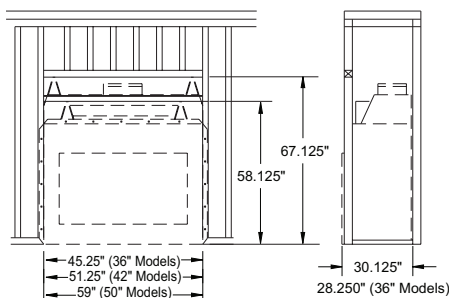

Figure 4 - Framing Dimensions
1. The location must allow for proper clearances (see Figures 4 and 5).
1. Frame opening for fireplace using dimensions shown in Figures 4 and 5.